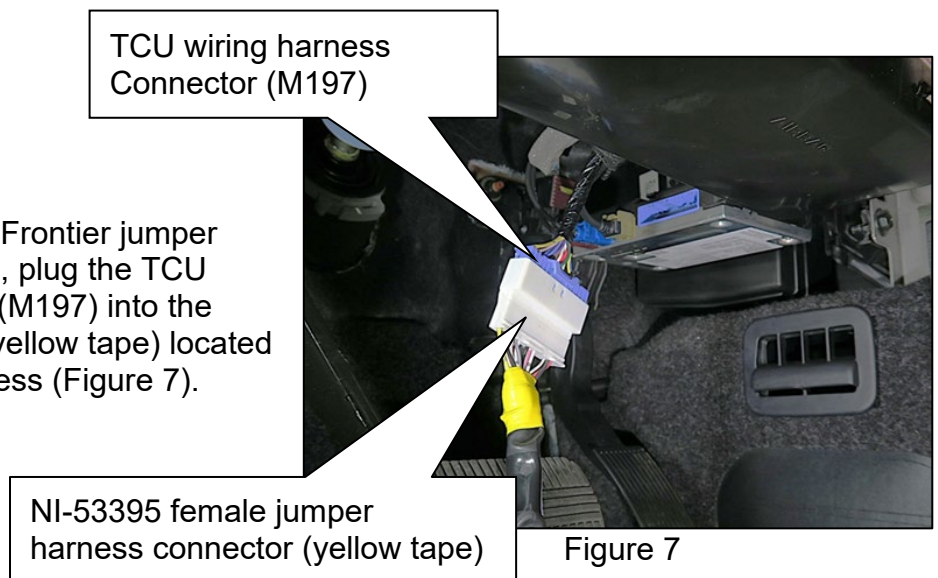

Figure 7
8. Using the provided Frontier jumper harness (NI-53395), plug the TCU harness connector (M197) into the female connector (yellow tape) located on the jumper harness (Figure 7).